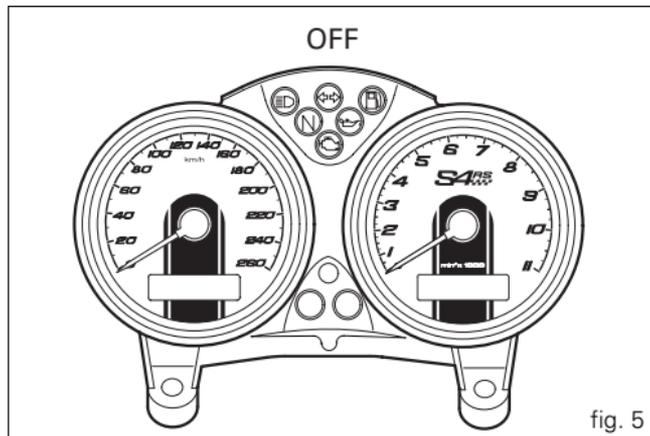
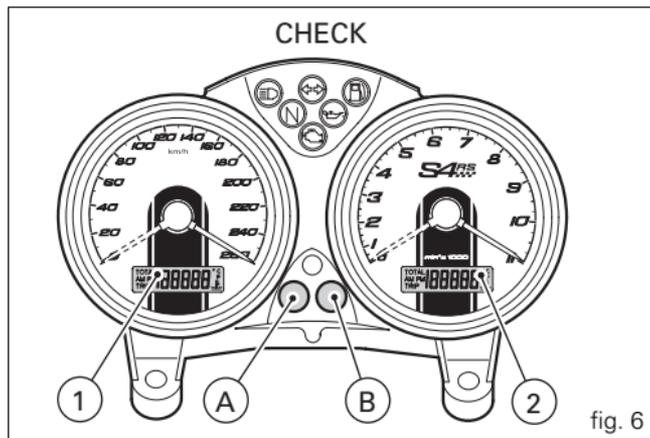

fig. 5
fig. 6
When the key is turned from **OFF** to **ON**, the instrument panel runs a **check** on all instruments (pointers, display, lights) (fig. 5 and fig. 6).
By pressing button (B, fig. 6) with the key turned to **ON**, you can cycle between display of the trip counter and the odometer and, if the fuel level warning light is on, the fuel reserve trip counter.
If button (B, fig. 6) is held pressed for more than 2 seconds while the **TRIP** (trip meter) is active, the display is reset (LCD 1).
Press button (A, fig. 6) with the key turned to **ON** to display the clock and coolant temperature.
Press button (B, fig. 6) for at least 2 seconds and the time will be shown on display (2, fig. 6).
To select **AM/PM**, press button (B, fig. 6). Press button (B) to select the hour setting function. Press (A) repeatedly to change the hour indication. Press button (B, fig. 6) to enter the minutes setting mode.
When the fuel level warning light illuminates the word "FUEL" appears on display (2, fig. 6) and the fuel reserve trip counter function will be activated and indicate on display (1, fig. 6) the number of kilometres travelled in reserve preceded by the letter 'F' (FUEL).
The "MAInt" message on display (1, fig. 6) indicates that the service interval has been reached: it will be displayed for 5 seconds each time the ignition is switched on. When the "MAInt" message is displayed, contact an authorised dealer or service centre.
Press button (B, fig. 6) within 5 seconds after the ignition key is turned to the **ON** position to adjust the brightness of the backlight. The brightness changes at each press of the button.